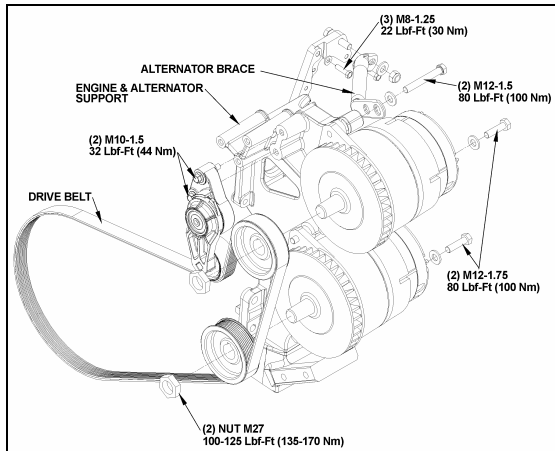

FIGURE 22: BOSCH ALTERNATORS MOUNTING TORQUES (VOLVO D13)
If the alternators needed to be removed, reinstall as follows. Refer to figures 22 and 23 for installation and tightening specifications:
1. If not already done, mount the alternator brace to the engine and alternator support (figure 22).
2. Bolt the alternators to the bracket using one 3.5 inch bolt at the top and two 1¾ inch bolts at the lower mounting bosses (fig. 22).
- Insert a $\frac{3}{4}$ " socket drive into the automatic belt tensioner opening (Fig. 22).